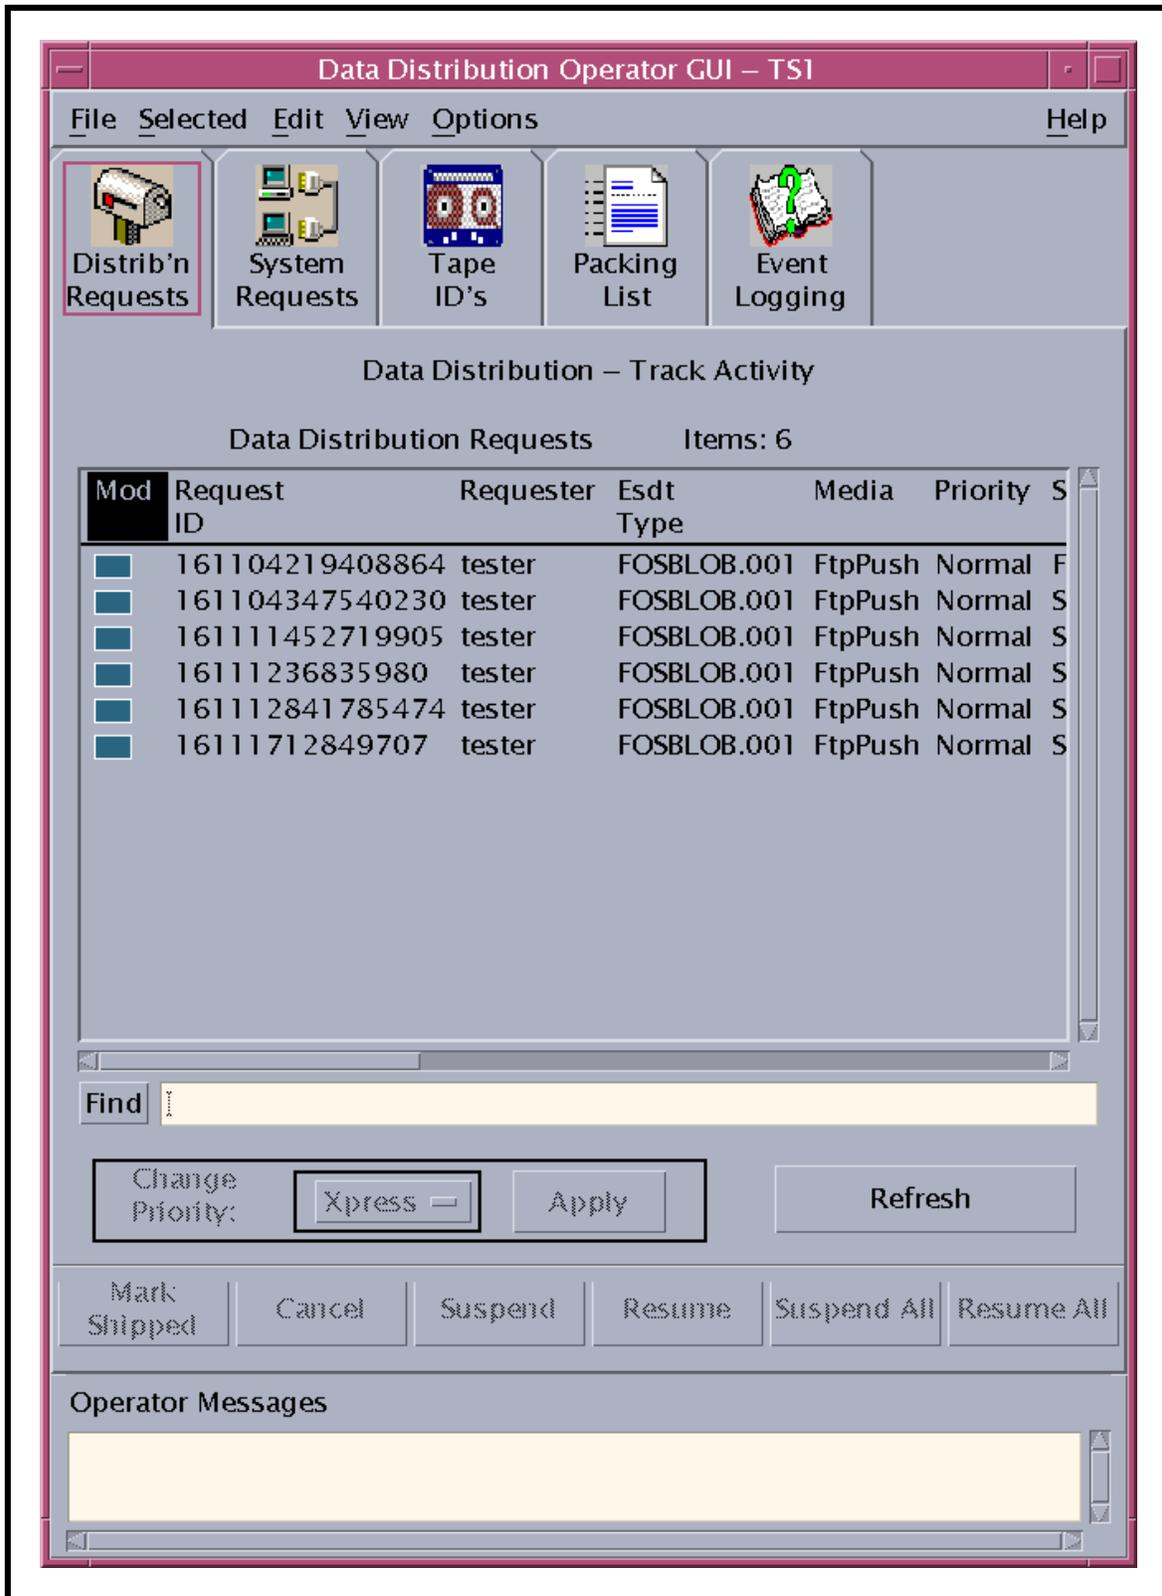

Figure 5. Distrib'n Requests Tab (Data Distribution Operator GUI)
- The **Data Distribution Operator GUI Distrib'n Requests** tab (Figure 5) is displayed.
The Ingest/Distribution Technician monitors and manages data distribution requests primarily via the **Data Distribution - Track Activity** window of the **Distrib'n Requests** tab (Figure 5). From the **Data Distribution - Track Activity** window the DAAC Ingest/Distribution Technician can perform the following functions:
The procedure for monitoring data distribution requests starts with the assumption that all applicable servers and the **Data Distribution Operator GUI** are currently running and the **Distrib'n Requests** screen (Figure 5) is being displayed.
The procedure for configuring data distribution polling starts with the assumption that all applicable servers and the **Data Distribution Operator GUI** are currently running and the **Data Distribution - Track Activity** window (Figure 5) on the **Distrib'n Requests** tab is being displayed.
The distribution requests to be displayed in the **Data Distribution Requests** list (**Data Distribution - Track Activity** window shown in Figure 5) can be filtered using the **Distribution Filter Requests** dialog box. The filtering can be done on the basis of the following criteria, either individually or in combination:
The procedure for filtering data distribution requests starts with the assumption that all applicable servers and the **Data Distribution Operator GUI** are currently running and the **Data Distribution - Track Activity** window (Figure 5) on the **Distrib'n Requests** tab is being displayed.